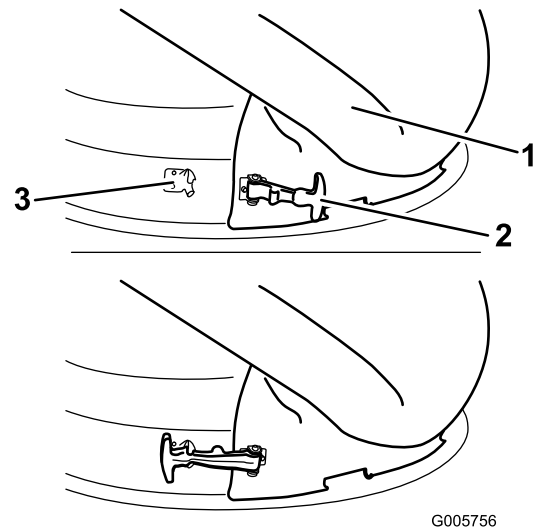

Figure 22
4. Secure the chute to the 50 inch deck. Hook the flexible latch on the chute to the retaining clasp welded on the mower deck to the rear of the opening (Figure 22).